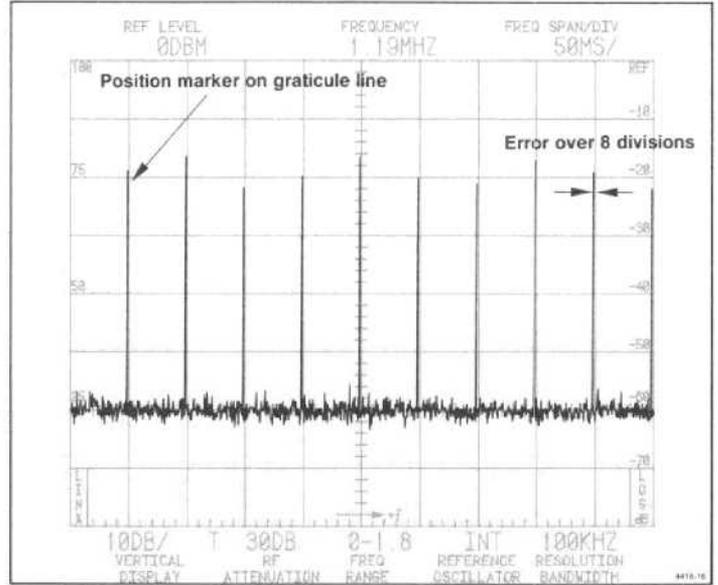

Figure 4-7. Typical display to illustrate how time/div accuracy is measured.
- d. Apply 50 ms time markers. Adjust CENTER FREQUENCY, if necessary, to display the markers on the time domain display (see Figure 4-7).